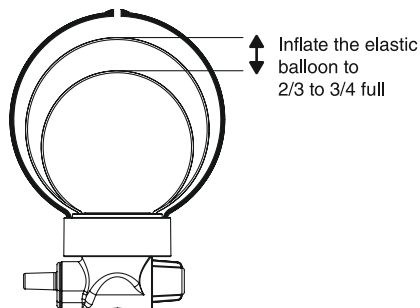

Fig. 3: Required inflation size
- The TRACOE smart Cuff Manager is not initially inflated to a pressure within the range of 20 cmH2O to 30 cmH2O and the inner balloon is not expanded to approximately 2/3 to 3/4 of its maximum volume (figure 3).
Once the TRACOE smart Cuff Manager is connected to the cuff inflation line, insert the cuff pressure monitor or syringe into the female Luer connection, at the base (Luer f, figure 1), and inject sufficient air to properly inflate the inner blue balloon to a diameter of 2/3 – 3/4 (figure 3) as compared to the outer housing.
Throughout the 29 days of clinical use the inner balloon of the TRACOE smart Cuff Manager may require refilling of air to maintain the 2/3 – 3/4 fill level (figure 3). To refill the inner balloon, follow the inflation procedure defined in section 8.1. If the volume of the balloon is too low, the cuff pressure may be increased.